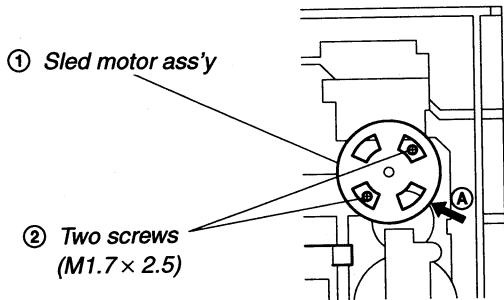

Fig. 8
- 1) Push the sled motor ass'y ① toward direction ④. (See Fig.8)
- 2) Tighten two screws ② (M1.7×2.5).